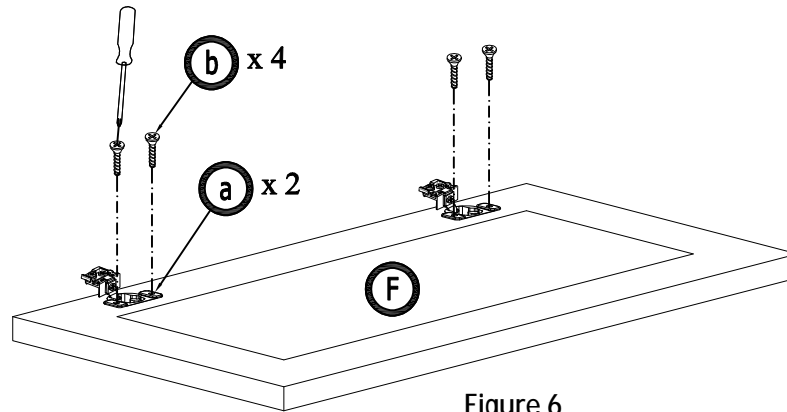

Figure 6
6. Assemble 2 hinges into two doors by screwdriver and 4 screw 7/15" (Figure 6)